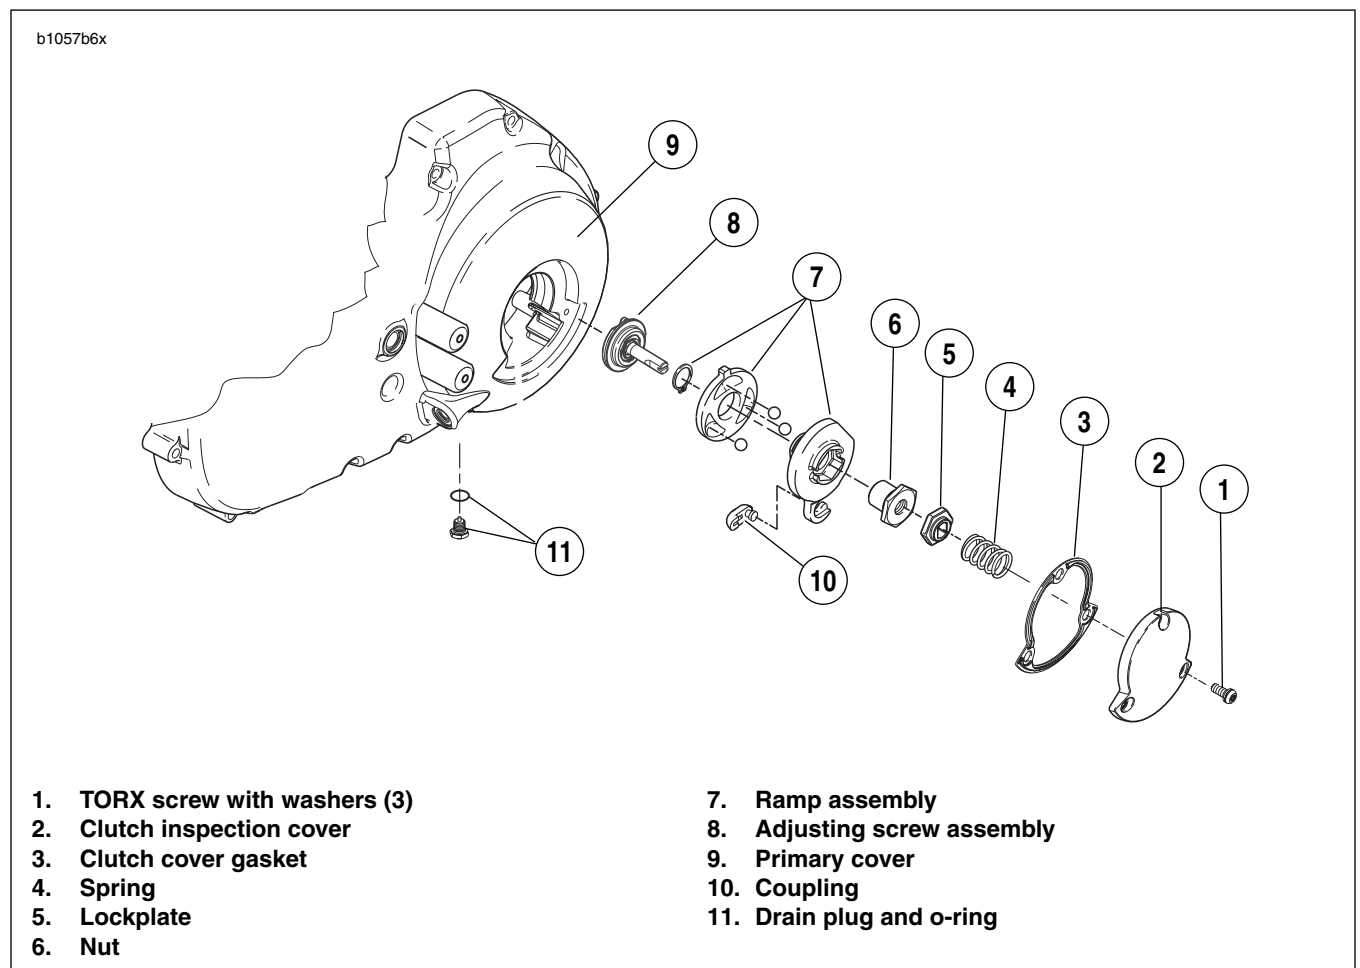

Figure 6-9. Clutch Release Mechanism
4. See Figure 6-9. Remove three TORX screws with washers and clutch inspection cover.
5. Slide spring (4) with attached screw lockplate (5) from flats of adjusting screw.
6. Turn adjusting screw clockwise to release ramp and coupling mechanism (7). As the adjusting screw is turned,
2. See Figure 6-9. Inspect three balls of release mechanism and ball socket surfaces of inner and outer ramps for wear, pitting, surface breakdown and other damage. Replace parts as necessary.